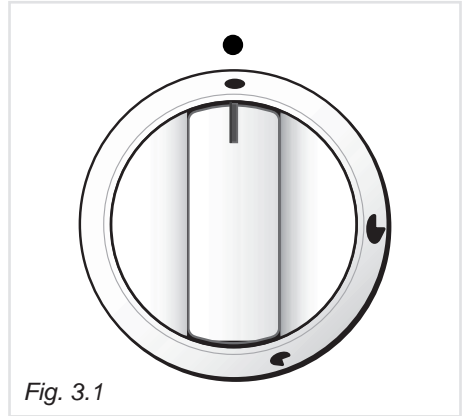
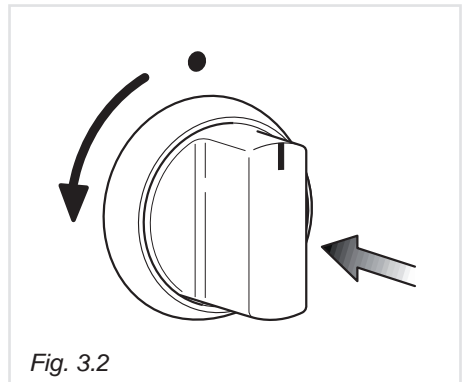
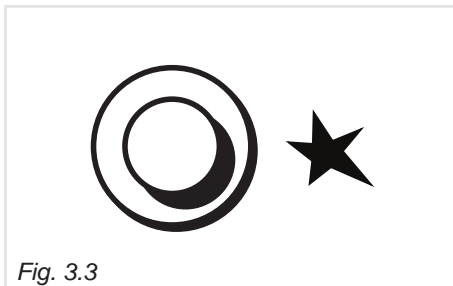

Fig. 3.1
Fig. 3.2
Fig. 3.3
Each burner is controlled by a gas tap (fig. 3.1) assuring the opening and the closing of the gas supply.
1. Press in the corresponding knob and turn counter-clockwise (fig. 3.2) to the full flame position marked by the symbol (fig. 3.1) and hold the knob in until the flame has been lit. Press the ignition button marked by the symbol ★ (fig. 3.3). The sparks produced by the electrodes situated next to the burner will light the selected burner. In the case of a mains failure light the burner with a match or lighted taper.